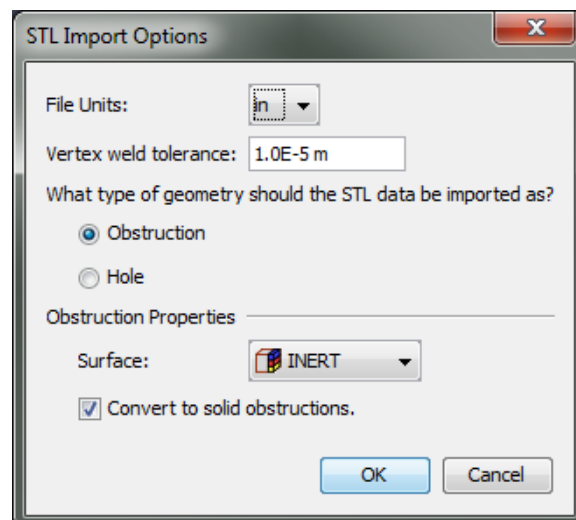

Figure 25. STL Import Options dialog
3. Enter the import options in the **STL Import Options** dialog as shown in Figure 25.
In Figure 25, the following options can be specified: